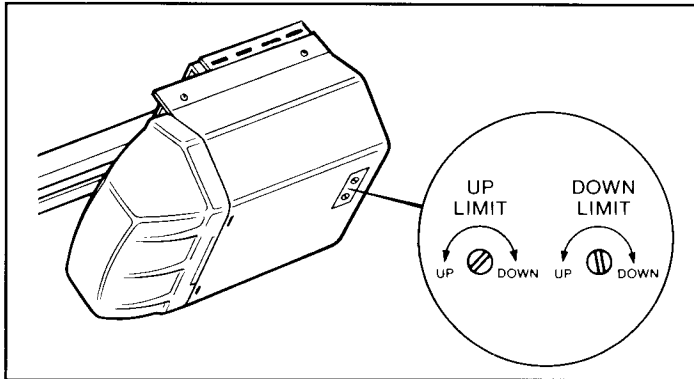

Figure 20
Step 45: To increase the "up" distance, turn the slotted "Up Limit" screw in the counterclockwise direction (see Figure 20). Note that each turn is equal to approximately one inch of door travel. Then estimate the number of turns required.
Step 54: If the door stops after encountering the obstruction, it is an indication that the down limit needs to be adjusted. Turn the down limit screw 1 or two turns in the down direction (see Figure 20). Keep in mind that the door arm should not pass the vertical position.